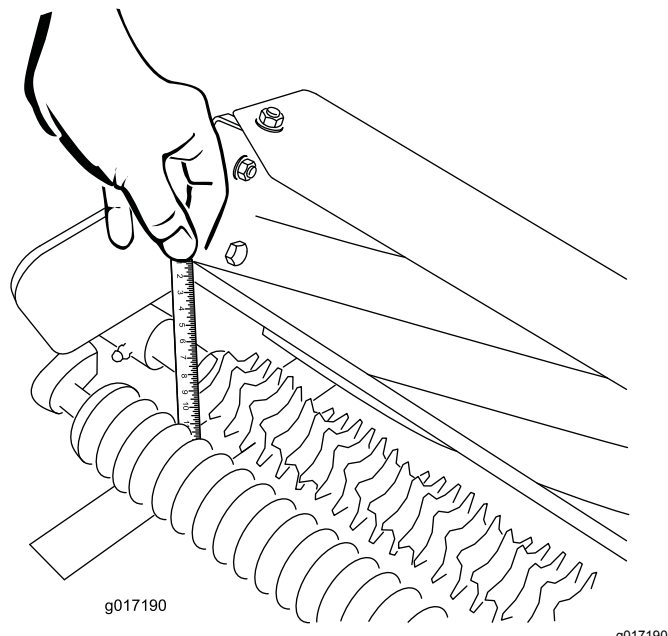

Figure 26
3. On one end of the groomer shaft, measure the distance from the lowest tip of a groomer blade to the work surface (Figure 26).